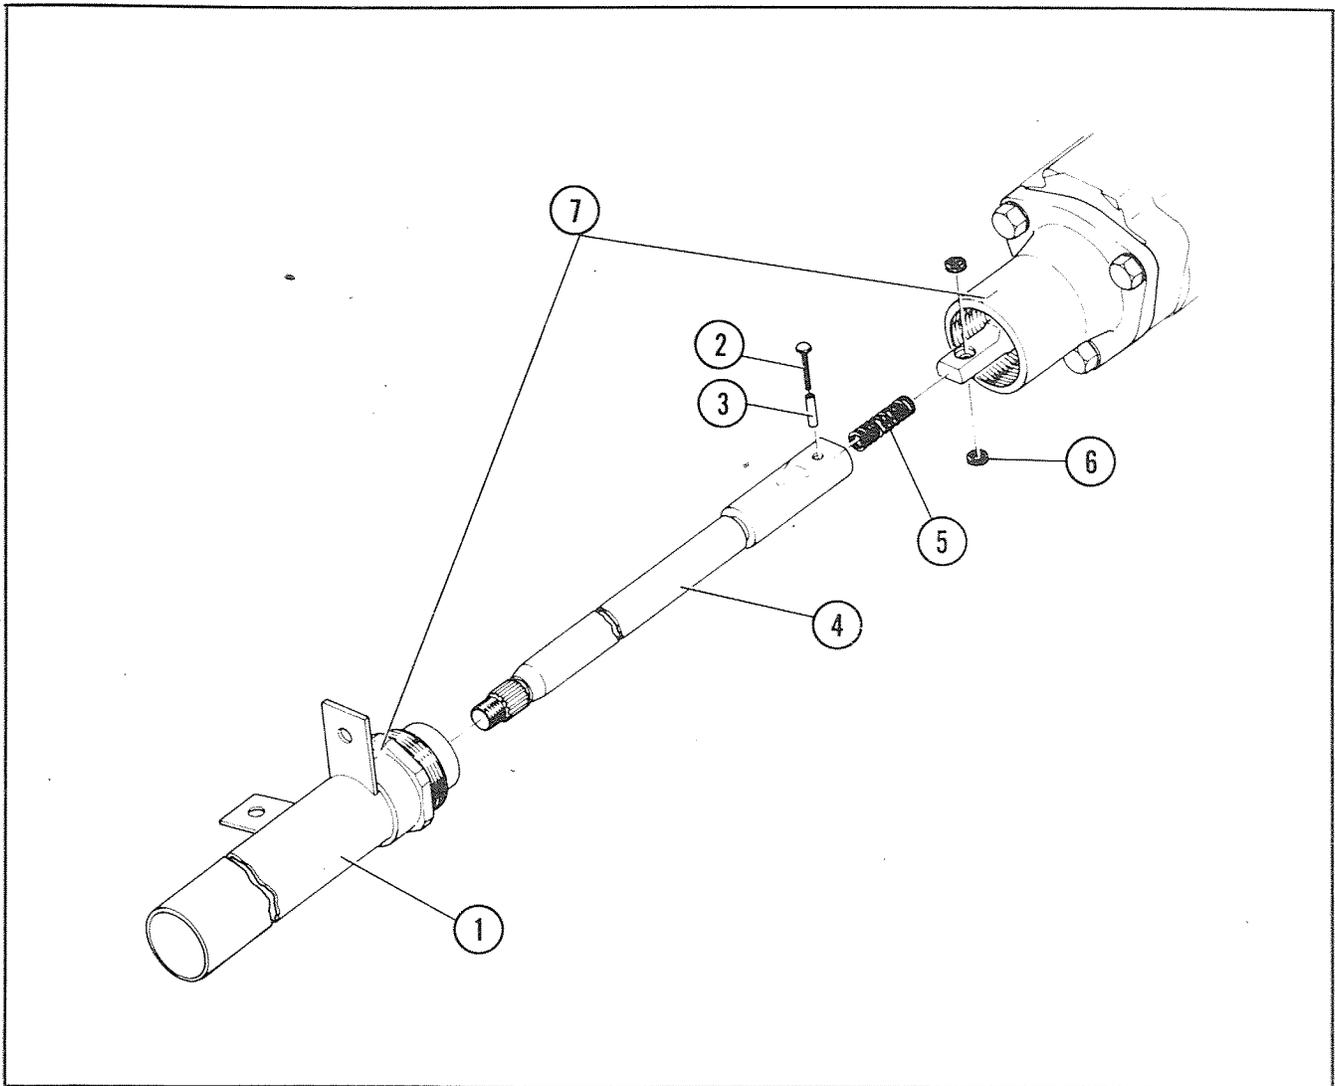

Figure 29
1. Remove the column (1) from the gear box, Figure 29.
2. Straighten the rivet (2) and pull out the rivet and spring pin (3), Figure 29.
3. Remove the steering shaft (4) and pull out the spring (5), Figure 29.